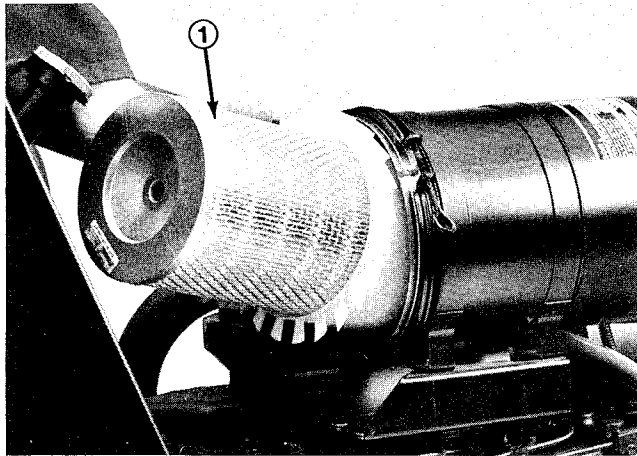

Figure 45
3. Remove wing nut w/gasket and slide filter element out of air cleaner body (Fig. 45).